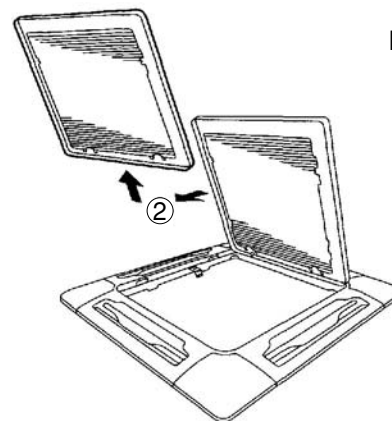

Fig. 9-5
- c) With the air-intake grille opened, remove the grille hinge from the ceiling panel by sliding it in the direction shown by the arrow ②. (Fig. 9-5)
- (2) Removing the corner cover